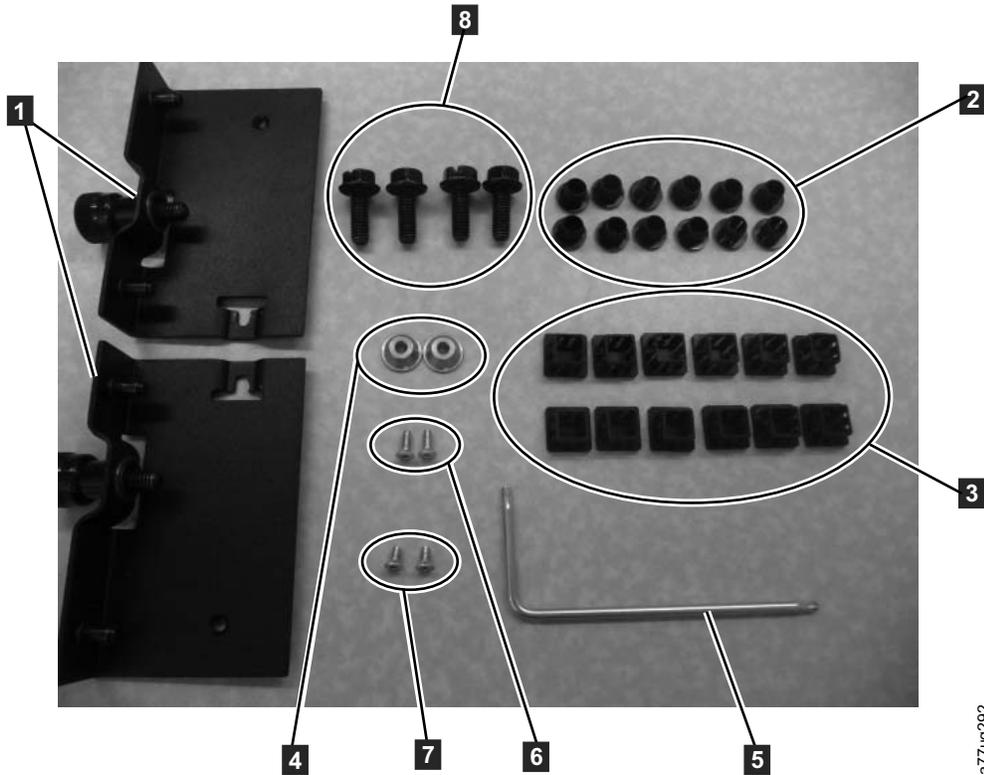

Figure 4-5. Rack Kit B mounting hardware
- 2 mounting brackets with captive thumb screws ( **1** in Figure 4-5)
- 1 Torx wrench ( **5** in Figure 4-5)